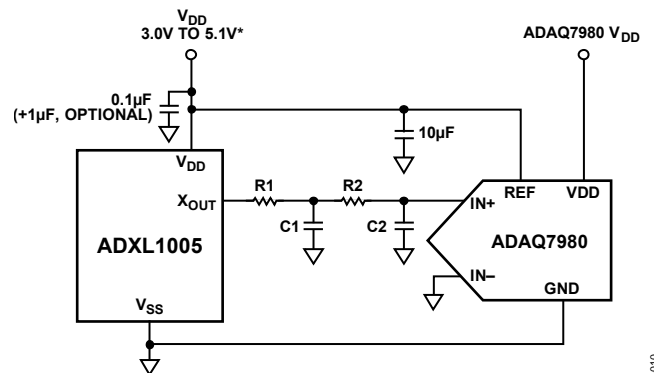

Figure 23. Application Circuit for the ADXL1005
See Figure 23 for an example of the interface, including components when measuring mechanical vibration from 0 kHz to 5 kHz. For a 5 kHz pass band, a single-pole resistor capacitor (RC) filter is acceptable. However, in some applications, use of a more aggressive filter and lower sample ADC sample rate is possible. The following components are recommended to form a 5 kHz low-pass RC filter at the output of the ADXL1005 when interfacing to an ADC, such as the ADAQ7980:  $R1 = 91\text{ k}\Omega$ ,  $C1 = 330\text{ pF}$ ,  $R2 = 0\ \Omega$ , and  $C2$  is not required. A minimum ADC sample rate of 16 kHz is recommended to avoid aliasing. When using sampling rates less than the resonance frequency (typically 42 kHz), be aware and account for the effective gain at the output of the sensor due to the resonance to ensure out of band signals are properly attenuated and do not alias into the band.
See Figure 23 for an example of the interface, including components when measuring mechanical vibration from 0 kHz to 10 kHz. The following components are recommended to form a two-pole RC filter at the output of the ADXL1005:  $R1 = 500\ \Omega$ ,  $C1 = 10,000\text{ pF}$ ,  $R2 = 1\text{ k}\Omega$ , and  $C2 = 10,000\text{ pF}$ . A minimum ADC sample rate of 200 kHz is recommended to avoid aliasing.